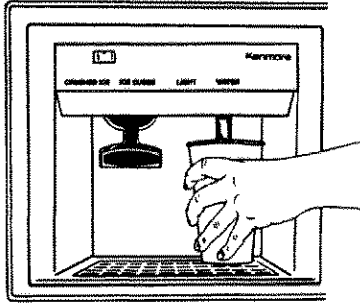

Figure 32
- Release pressure on bar to shut off water. Slight dripping may occur. Spill shelf is **not** self-draining, so large spills should be wiped dry immediately. See Figure 32.